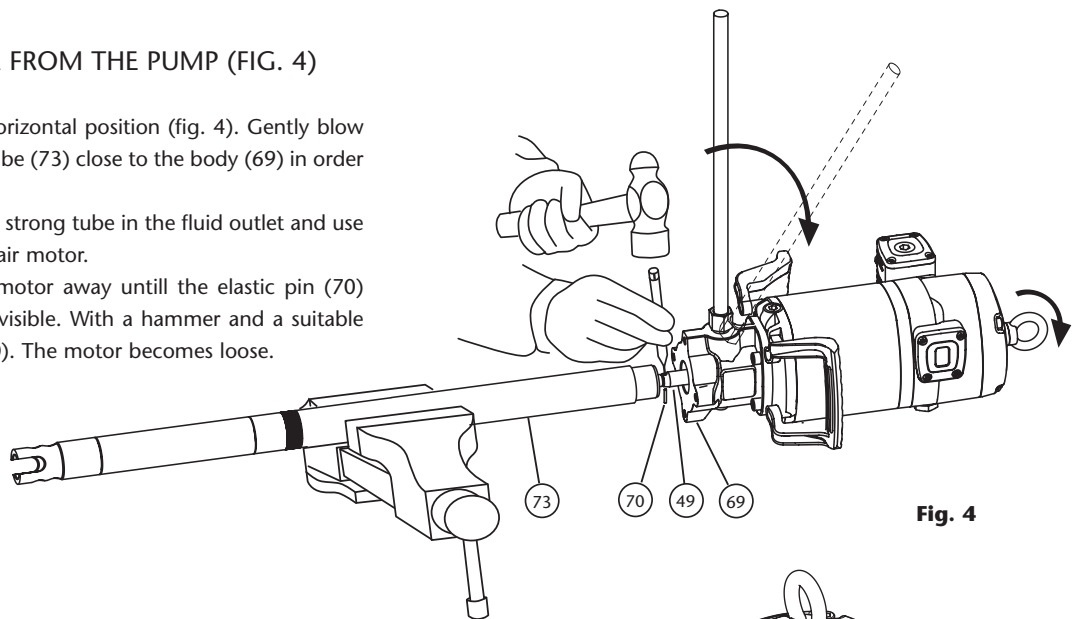

Fig. 4
SEPARATE THE AIR MOTOR FROM THE PUMP (FIG. 4)
1. Fix the pump in a vise in horizontal position (fig. 4). Gently blow with a hammer the upper tube (73) close to the body (69) in order to break the thread locker.
3. Once unscrewed, pull the motor away until the elastic pin (70) into the rod (49) becomes visible. With a hammer and a suitable pin punch, eject the pin (70). The motor becomes loose.